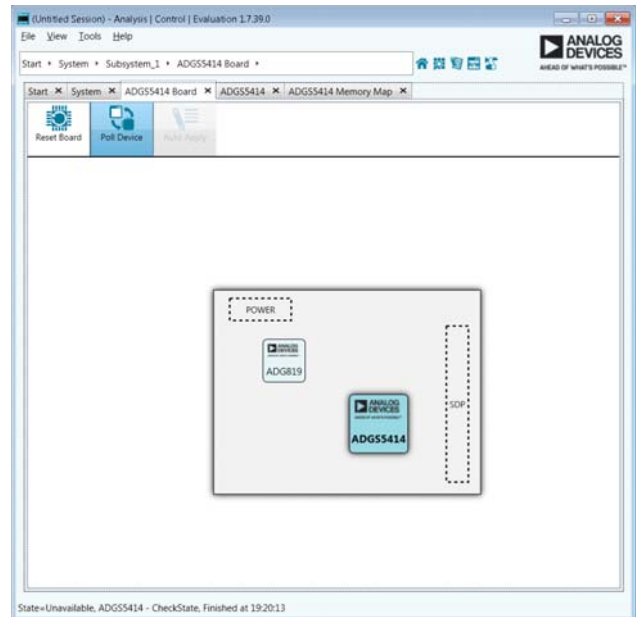
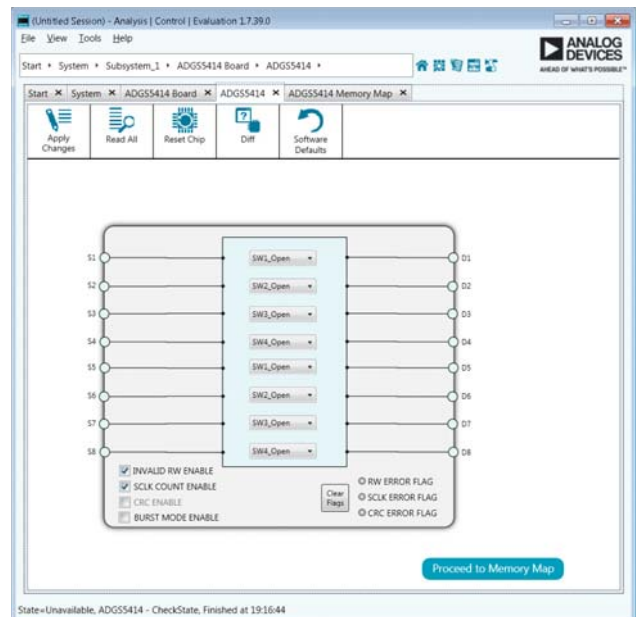

Figure 2. Evaluation Board View of the EVAL-ADGS5414SDZ
Figure 3. Chip Block Diagram View for the EVAL-ADGS5414SDZ
4. Double-click on the evaluation board plug-in to open the evaluation board view shown in Figure 2.
5. The chip block diagram can be accessed by double-clicking the **ADGS5414** icon (see Figure 2). This view provides a basic representation of functionality of the evaluation board. The main function labels are shown in Figure 3.